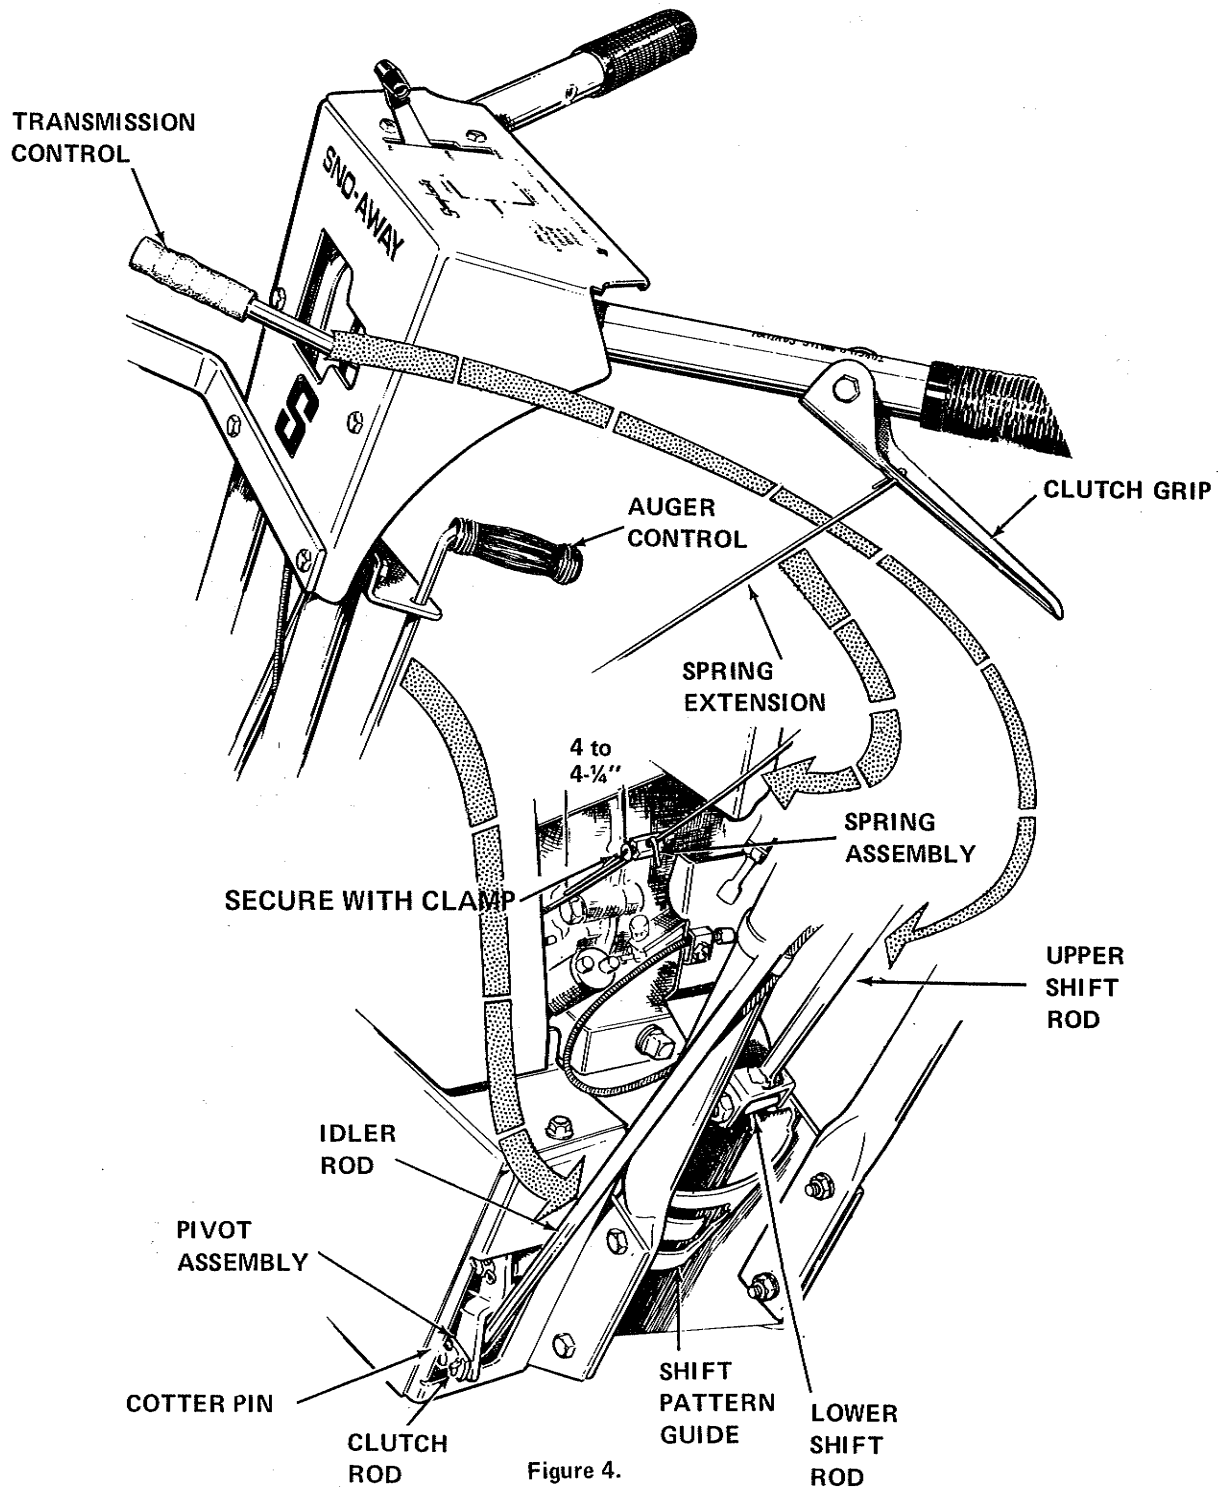

Figure 4.
5. See Figure 4. Secure transmission control upper shift rod to lower shift rod with a capscrew and locknut.
6. See Figure 4. Secure spring extension to spring assembly with wire clamp and round-head screw. Pull down on spring extension (upper wire) until there are 4 to 4¼ inches from the end of the clamp to the end of the spring extension. Tighten clamp. Further adjustment may be necessary.
7. See Figure 4. Attach auger control idler rod to pivot assembly and clutch rod with a cotter pin. Refer to Adjustments Section for clutch rod adjustment.